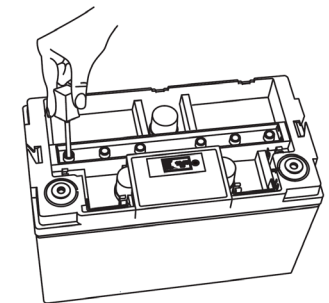

Figure 4.
- For models GEL 12-33, GEL 12-45, GEL 12-55, GEL 12-75, GEL 12-85 in the ratio of one container per three cells (Figure 4).
- For models GL 12-65, GEL 12-100, GEL 12-120, GEL 12-150, GEL 12-200 in the ratio of one container per cell (Figure 4).